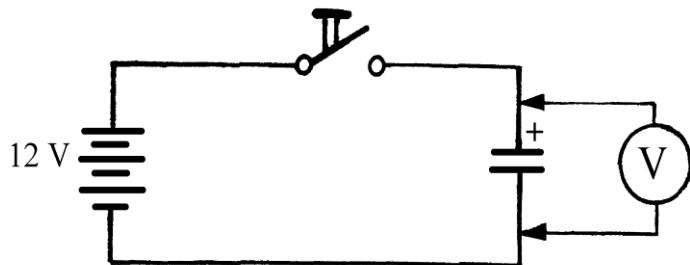

Figure 13
- Wire the circuit on the board as shown in the circuit diagram. (Make sure that the capacitor and meter polarity are correct, i.e. as shown in Fig. 13 and that the switch is in the off position).